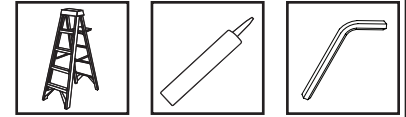

Fig. 19
3. With the help of two assistants, lift the Top Channel up and over Roto, Yoke and OV (Figure 19).